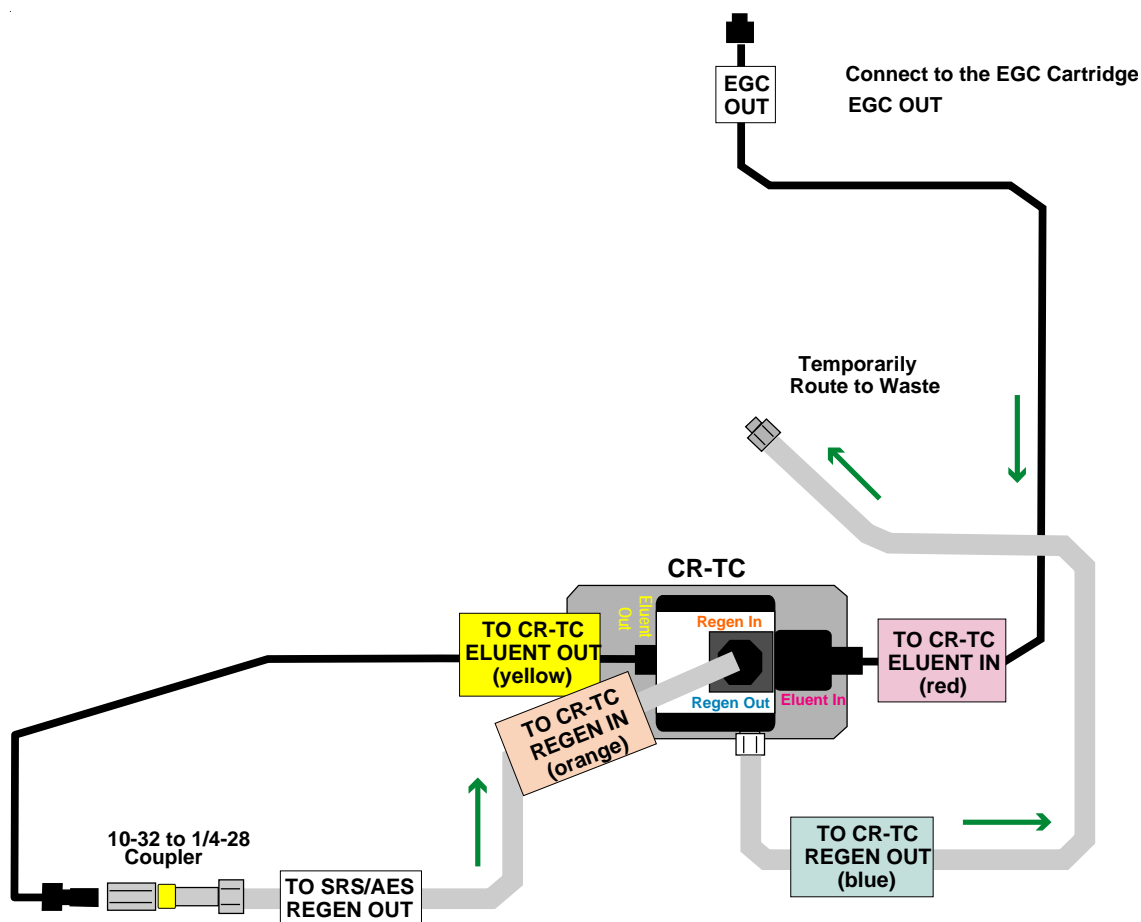

Figure 24
- E. All fittings should be finger tight plus 1/4 turn. Identify the tubing with the Red label in the ship kit. Connect the end with the white label **EGC OUT** to the **OUTLET** port of the EGC Cartridge. The end with the Red label **TO CR-TC ELUENT IN** is connected to the **Eluent In** port of the CR-TC. See Figure 24.
- Using a 10/32 to 1/4-28 coupler (P/N 042806) supplied with the EG40 Add-on Kit, temporarily connect the tubing between the CR-TC **Eluent Out** port and the CR-TC **Regen In** port. The line from the **Regen Out** port of the CR-TC should be diverted to waste. See Figure 24.